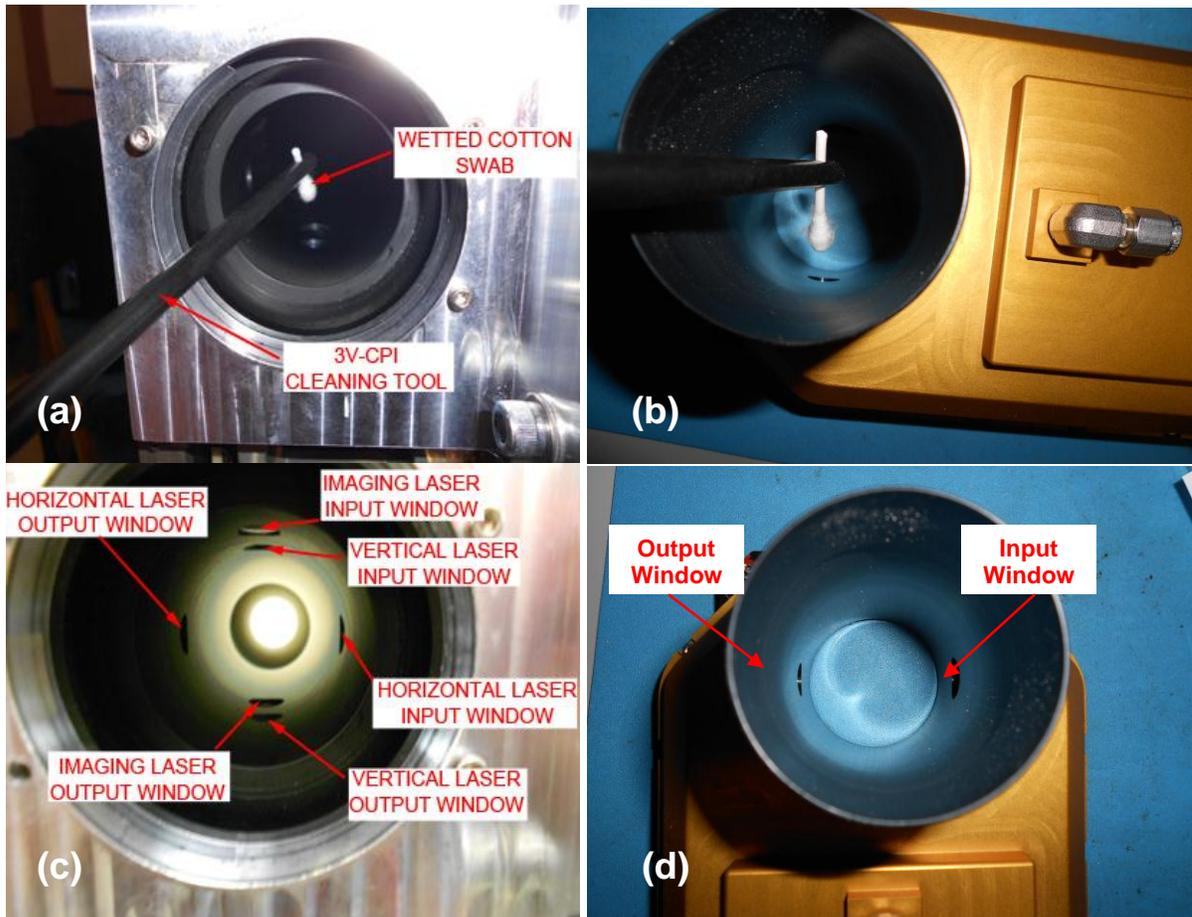

Figure 3.2.4. Proper insertion of the wetted cotton swab into (a) 3VCPI and (b) FCDP, and location of (c) 2D-S and CPI and (d) FCDP input and output windows.
6. Each of the optical systems should be cleaned in order, and each window must be specifically targeted (**Figure 3.2.4**). As shown in **Figure 3.2.4a and 3.2.4b**, insert the cleaning tool with the wetted end of the swab first, clean and dry only the window you are targeting. Observe the result of the cleaning in the real time software. The cleaning tool is inserted in the direction of airflow through the probe, from the end where the nose cone mounts. For each 2D-S channel and the FCDP:
The exact location of the windows depends on the orientation of the probe. This is critical for identifying which window is being cleaned. **Figure 3.2.4** shows the internal sensors removed from the pylon in the laboratory with the input windows on top and the output windows on the bottom. Use **Figures 3.2.2 and 3.2.4** as references to locate the windows in any orientation.